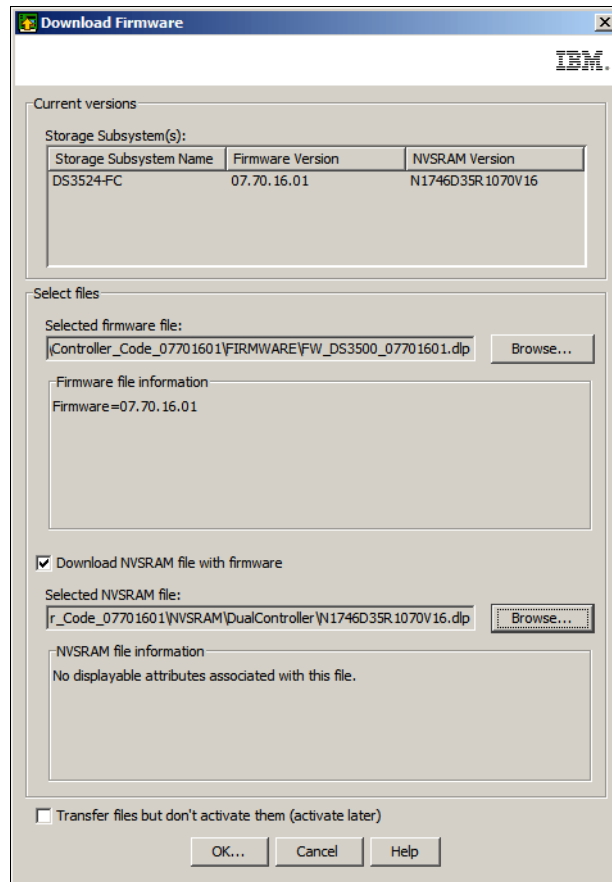

Figure 14-42 Select the NVSRAM file
- b. In the **Selected NVSRAM file** pane, click the **Browse** button and select the NVSRAM file that you want to transfer (Figure 14-42 on page 360).